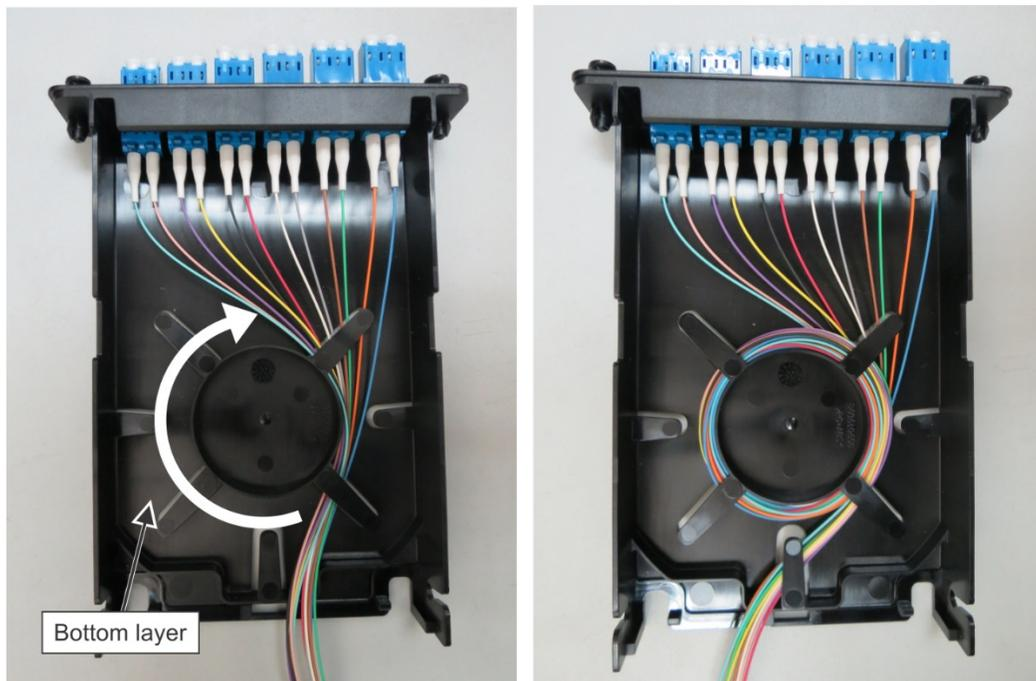

Figure 14. Route Pigtail
1. Loosely spool fibers clockwise around fiber drum on the bottom layer for two loops (Figure 14).